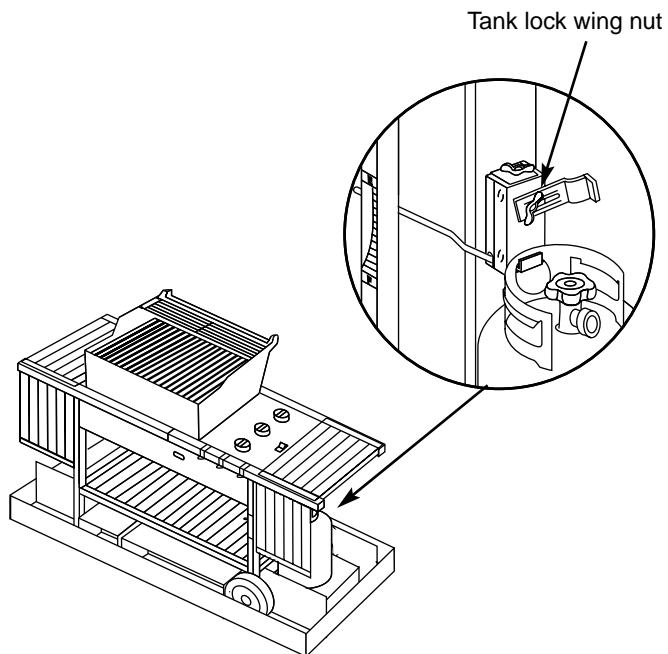

Figure 8
- 1) Loosen tank lock wing nut and turn tank lock up out of the way. Tighten wing nut. Figure 8 (a).